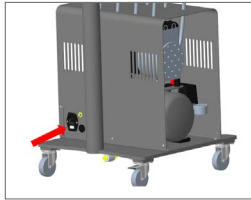

Figure 14
3. Loosen the screw on the drain valve below the tank to remove all pressure (a dry cloth is recommended to avoid getting wet). This will also eliminate condensation and extend tank life. Don't forget to tighten the screws before starting a new day. (Figure 14)